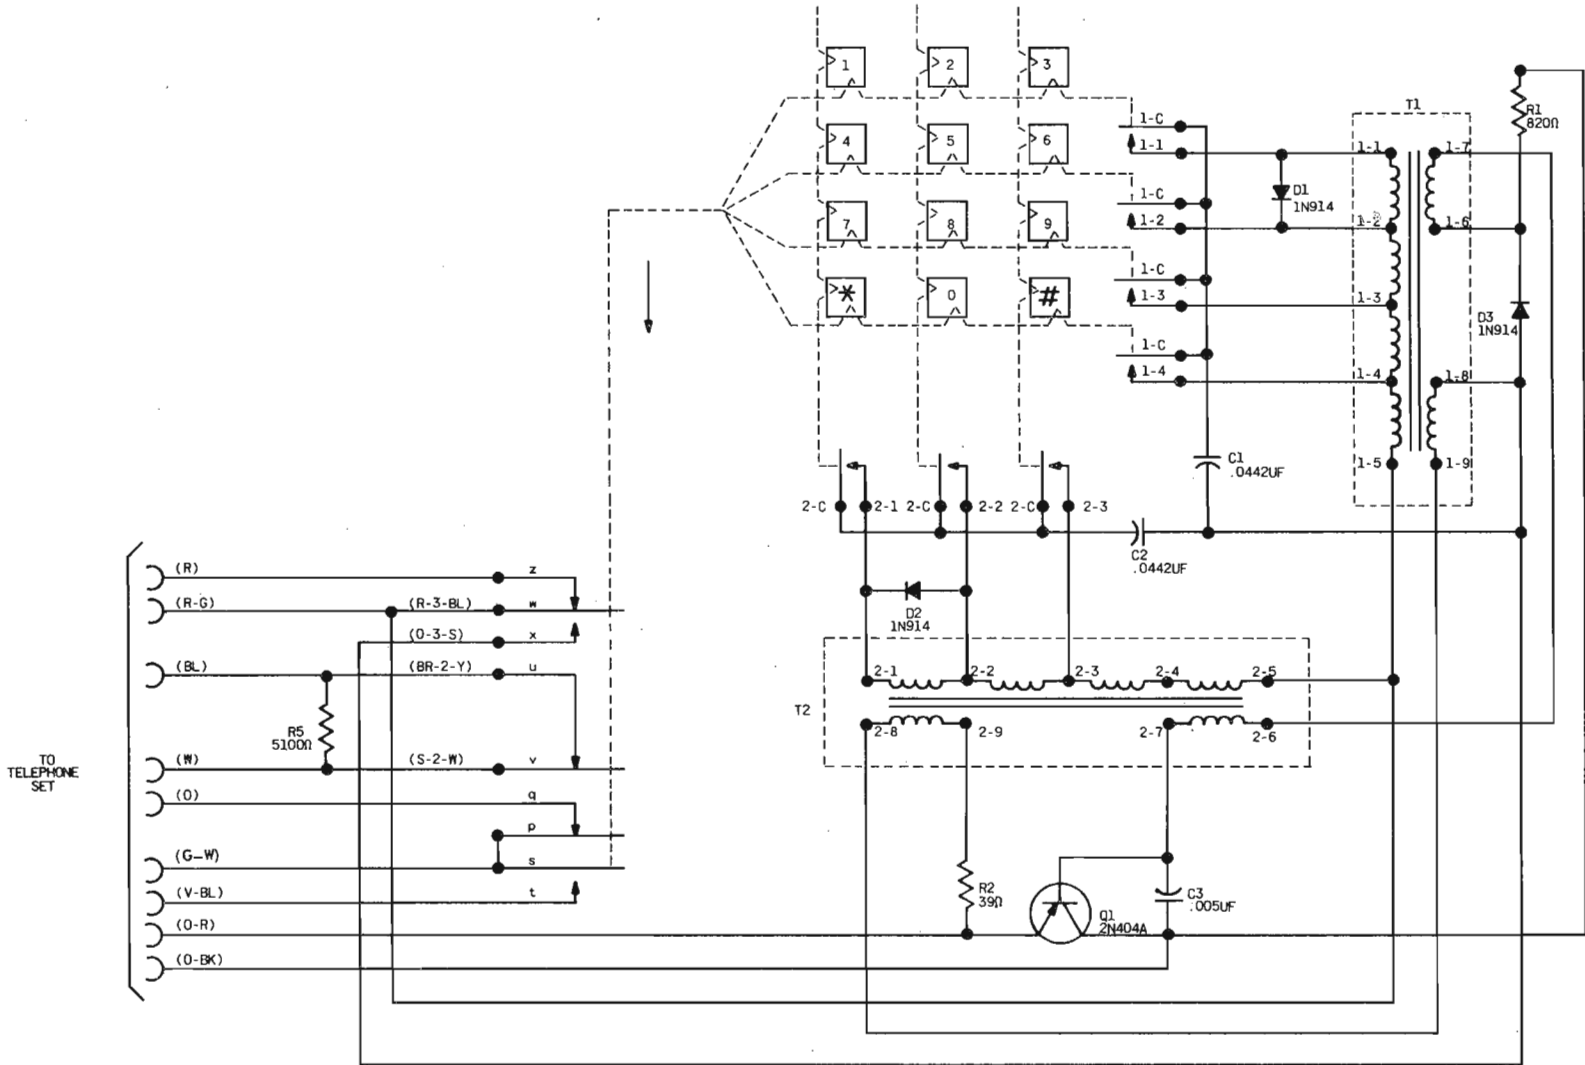

Fig. 11 - NE-35Q3K Dial Schematic (MD)
- Fig. 11 – NE-35Q3K Dial Schematic (MD)